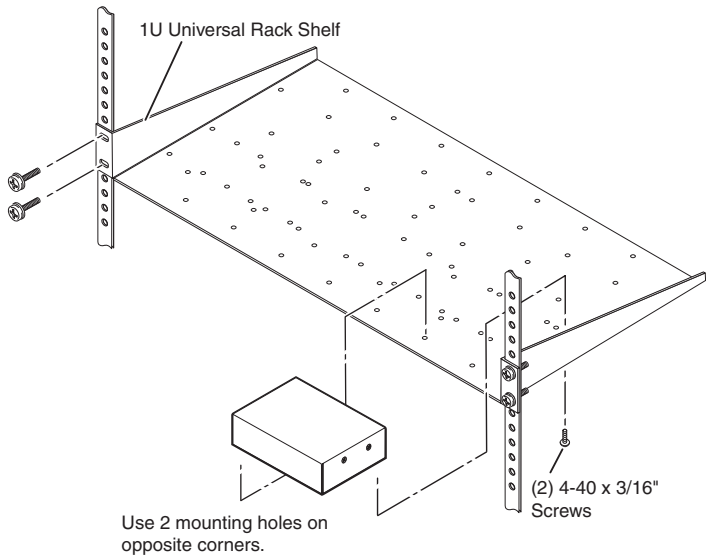

Figure 2-2 — Mounting the VSW 2VGA A on a standard 1U rack shelf
4. Attach the rack shelf to the rack using four 10-32 x 3/4 inch bolts (provided). Insert the bolts through #10 beveled washers, then through the holes in the rack ears and rack, as shown in figure 2-2.